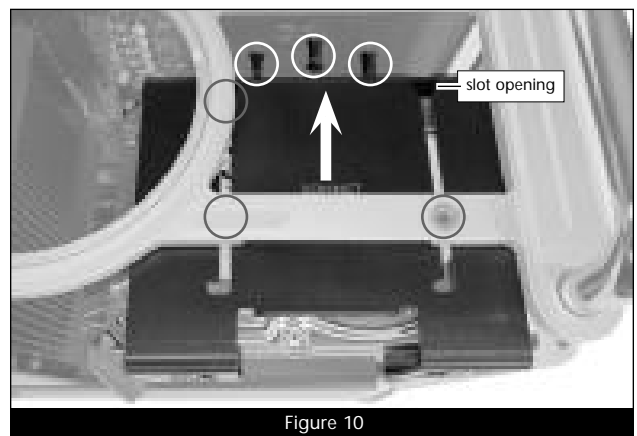

Figure 10
5. Holding the Fusion Flex J3i with the product's name on top, align the slot openings on top of the primary bracket with the front two mounting pins on the computer frame, and then slide the bracket straight back on to all three frame mounting pins (**Figure 10**). Push the bracket all the way back on to the logic board mounting pins.